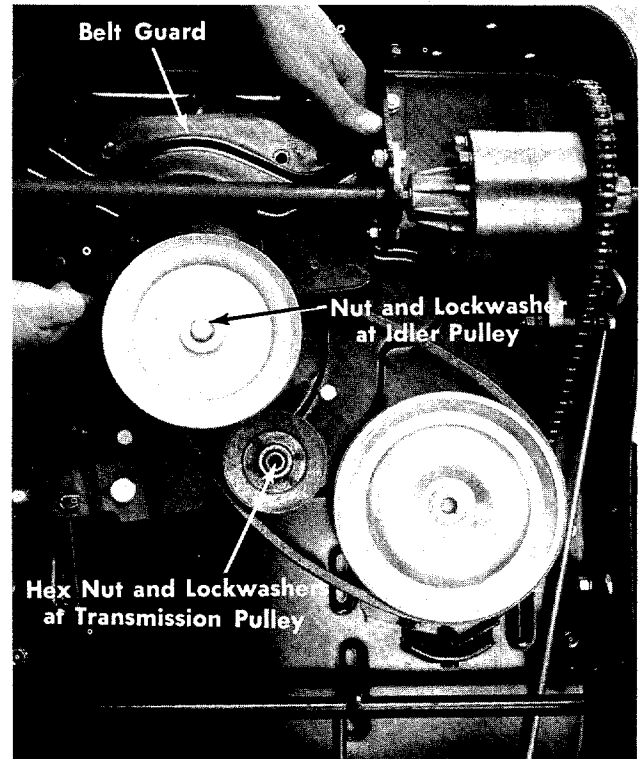

FIGURE 21. ENGINE BELT GUARD REMOVAL
Step 4. Remove the belt guard at the engine pulley. See figure 21.
Step 5. Remove the nut and lock washers at the idler pulley. See figure 21.